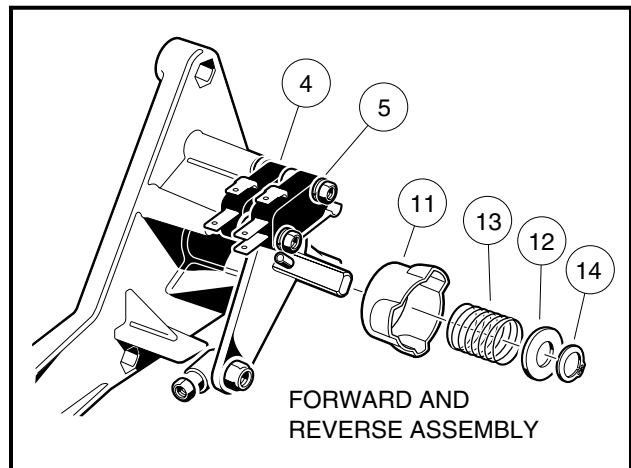
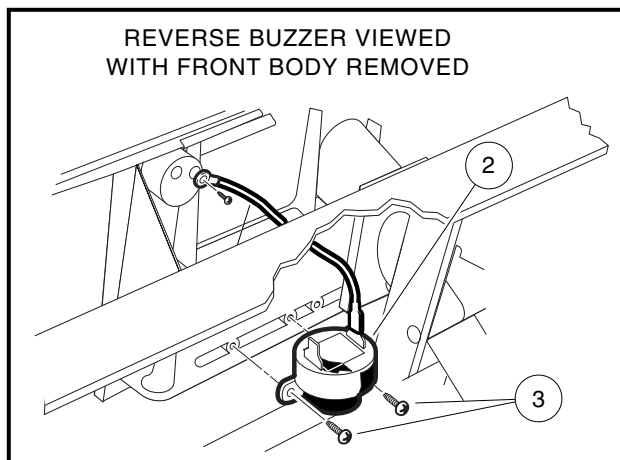

FIGURE 12-52
FIGURE 12-53
## Removing the Neutral Lock-out Cam (Figure 12-52):
3. Remove the external snap ring (14).
4. Remove the plastic washer (12) and the spring (13).
5. Remove the cam (11).
**Installing the Neutral Lock-out Cam (Figure 12-52):**
1. Install the cam (11).
2. Install the spring (13) and the plastic washer (12).
3. Install the external snap ring (14) onto the shaft.
**REVERSE WARNING BUZZER****Removing the Reverse Warning Buzzer (Figure 12-53)**
7. Disconnect the wires from the reverse warning buzzer. Do not allow wires to touch (**Figure 12-53**).
8. Remove the two mounting screws (3) that secure the buzzer to the center dash (**Figure 12-53**).
**Installing the Reverse Warning Buzzer (Figure 12-53)**